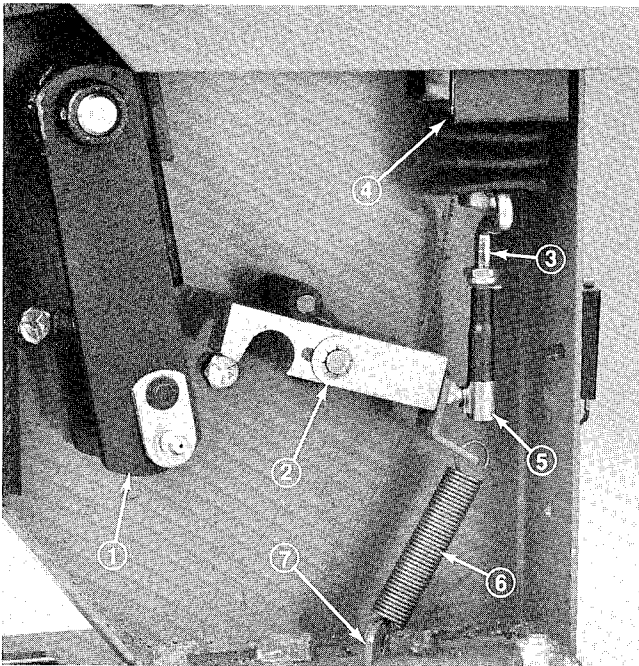

Figure 53
- A. Unlock ball joint from latch ball (Fig. 53).
**IMPORTANT: Make sure rod is positioned squarely as shown in Fig. 53.**